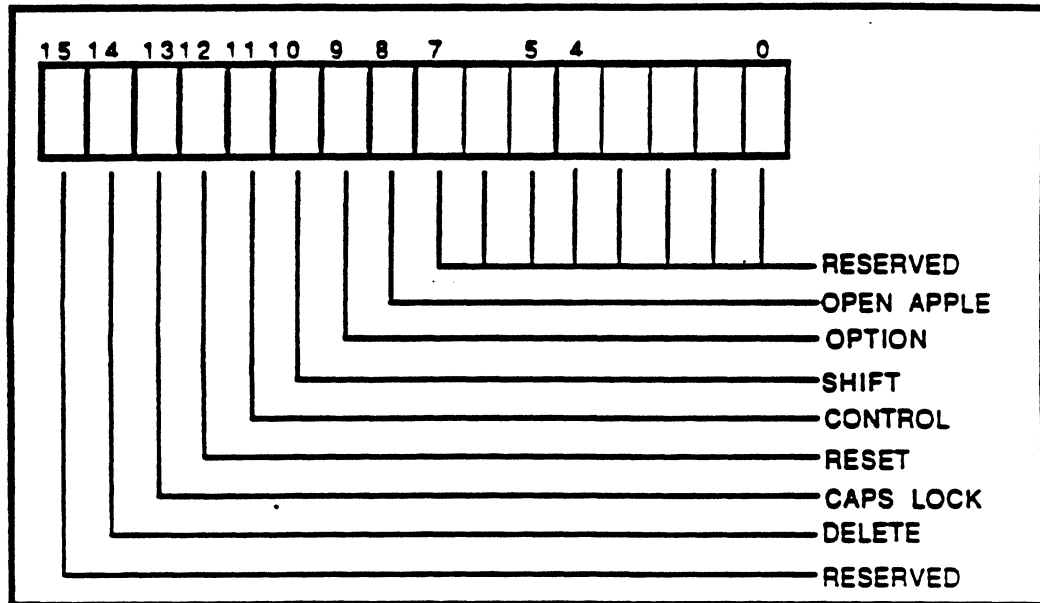

FIGURE 2 KEYBOARD REGISTER 2
6.6 THE STATUS OF THE FOLLOWING KEYS WILL BE INDICATED IN REGISTER 2 PER FIGURE 2